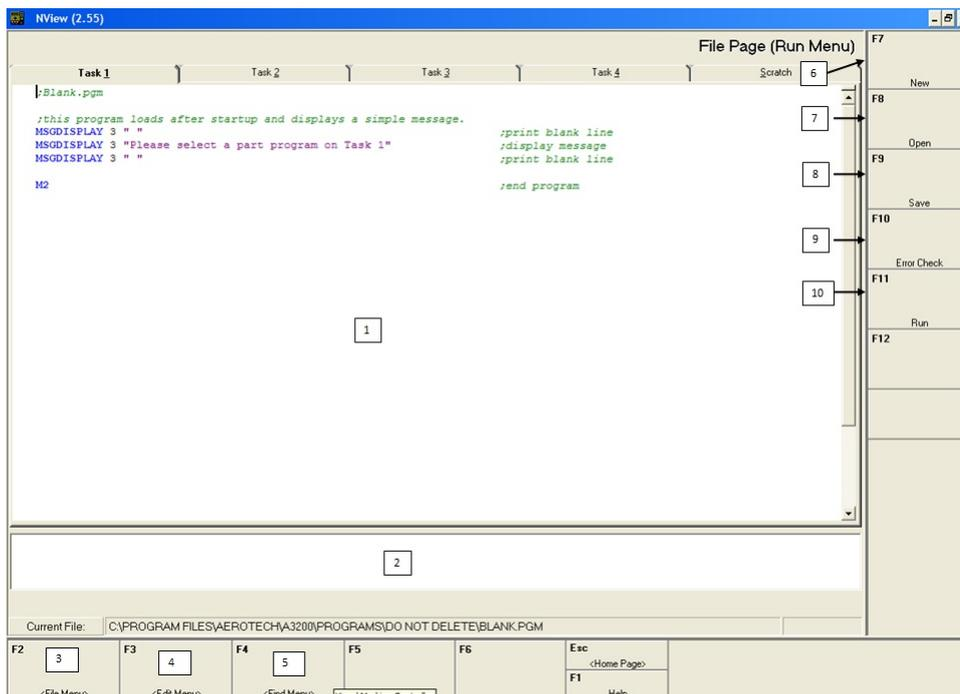

Figure 51: NView File Page.
- File Page (Figure 51) Used to load, modify, and initialize a program.